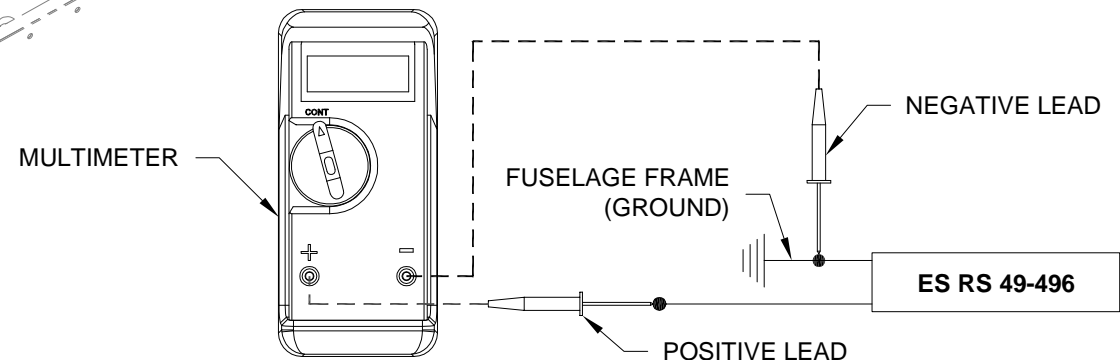

FIGURE 5: SWITCH TEST
Step 4: To test the ES RS 49-496 Reed Switches, temporarily connect a multimeter as shown in Figure 5 by connecting one wire coming from the left reed switch to the positive multimeter lead and the remaining reed switch wire and negative multimeter lead to the fuselage frame (ground). Turn the multimeter to the continuity check mode (most multimeters will generate an audible tone when continuity is made. Another method is to measure resistance. Infinite resistance indicates no continuity and zero resistance indicates continuity). Snap the left WD-1217C Fuselage Pin Stopper into the F-1248B Fuselage Pin Latch. The multimeter should indicate continuity. Repeat this step for the right reed switch.